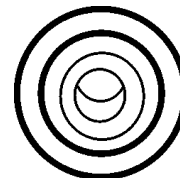

Figure 41. Pre-Heat Lamp
3. Depending on the temperature of the coolant (cold weather conditions), the pre-heat lamp (Figure 41) will light (**ON**) and remain on until the pre-heating cycle has been completed. After completion of the pre-heating cycle, the light will go **OFF** and the engine will start up automatically.